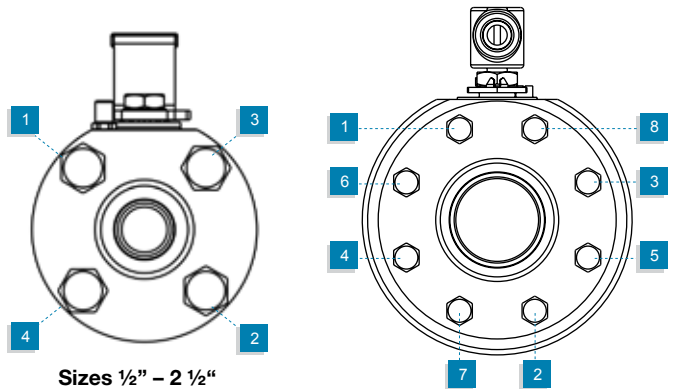

Figure 2
- 9.18. place the bonnet on center section, and tighten the bonnet bolts according to Table 3, and according to tightening pattern shown on figure 2).
- 9.38. place the bonnet on center section, and tighten the bonnet bolts according to Table 3, and according to tightening pattern shown on figure 2).